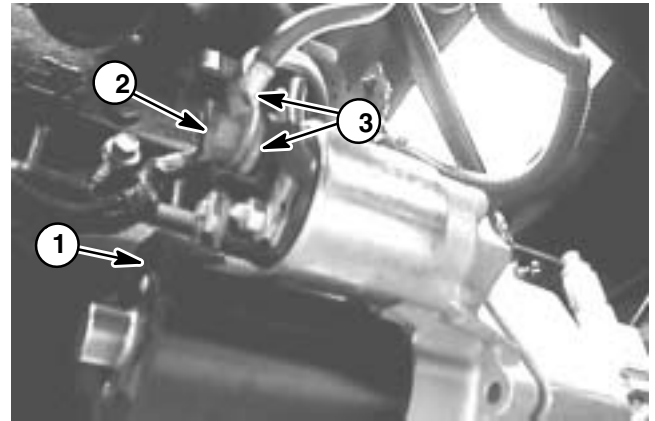

Figure 15
A. Remove nut from electric starter motor solenoid stud (Fig. 15). Remove positive battery cable and cable to accessory solenoid from starter solenoid stud.
A. Install positive battery cable and accessory solenoid cable onto starter solenoid stud (Fig. 15). Secure cables to stud with nut.